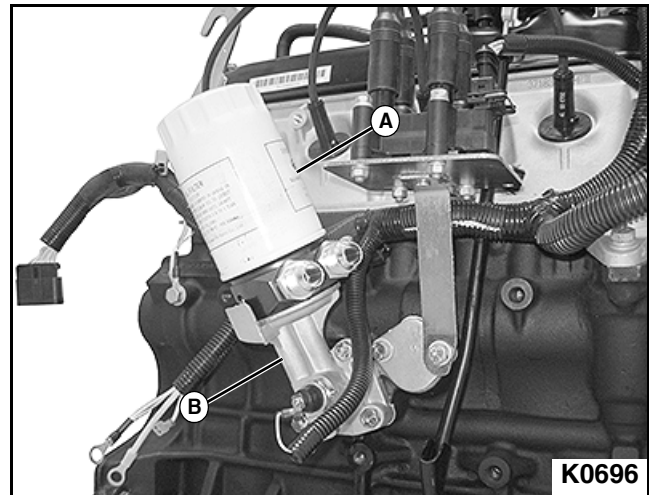

Figure 3-110
3. Install oil filter (A) to oil filter base (B) by turning clockwise until oil filter gasket makes contact with oil filter base. **See Figure 3-110.**